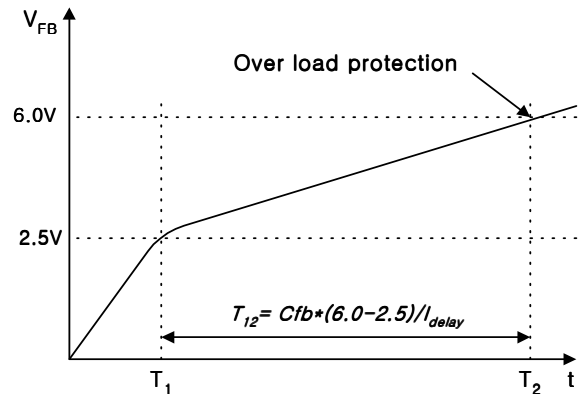

Figure 7. Over load protection
3.1 Over Load Protection (OLP) : Overload is defined as the load current exceeding a pre-set level due to an unexpected event. In this situation, the protection circuit should be activated in order to protect the SMPS. However, even when the SMPS is in the normal operation, the over load protection circuit can be activated during the load transition. In order to avoid this undesired operation, the over load protection circuit is designed to be activated after a specified time to determine whether it is a transient situation or an overload situation. Because of the pulse-by-pulse current limit capability, the maximum peak current through the Sense FET is limited, and therefore the maximum input power is restricted with a given input voltage. If the output consumes beyond this maximum power, the output voltage (V_o) decreases below the set voltage. This reduces the current through the opto-coupler LED, which also reduces the opto-coupler transistor current, thus increasing the feedback voltage (V_{fb}). If V_{fb} exceeds 2.5V, D1 is blocked and the 3.5uA current source starts to charge C_B slowly up to V_{cc} . In this condition, V_{fb} continues increasing until it reaches 6V, when the switching operation is terminated as shown in figure 7. The delay time for shutdown is the time required to charge C_B from 2.5V to 6.0V with 3.5uA. In general, a 10 ~ 50 ms delay time is typical for most applications.